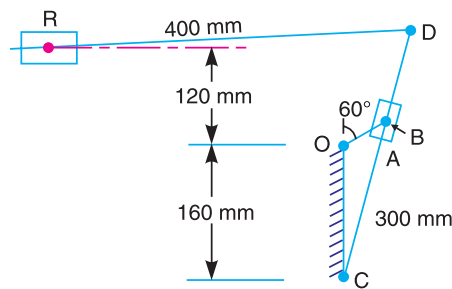

Fig. 8.43
8. In a quick return mechanism, as shown in Fig. 8.43, the driving crank  $OA$  is 60 mm long and rotates at a uniform speed of 200 r.p.m. in a clockwise direction. For the position shown, find 1. velocity of the ram  $R$ ; 2. acceleration of the ram  $R$ , and 3. acceleration of the sliding block  $A$  along the slotted bar  $CD$ . [Ans. 1.3 m/s; 9 m/s2; 15 m/s2]